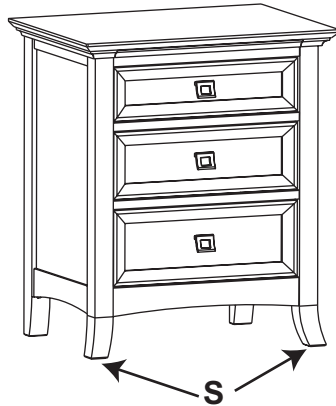

Fig. 1
1. Place the unit at its final destination. Rotate the Small Adjustable Glides (S) on the bottoms of the front legs until the unit is level. See Figure 1.